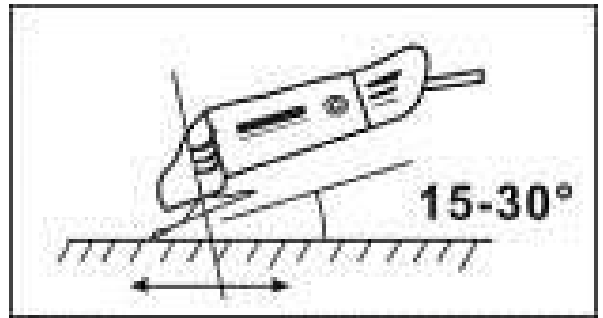

FIG.5
5.5 SWITCHING ON / OFF (FIG. 5)